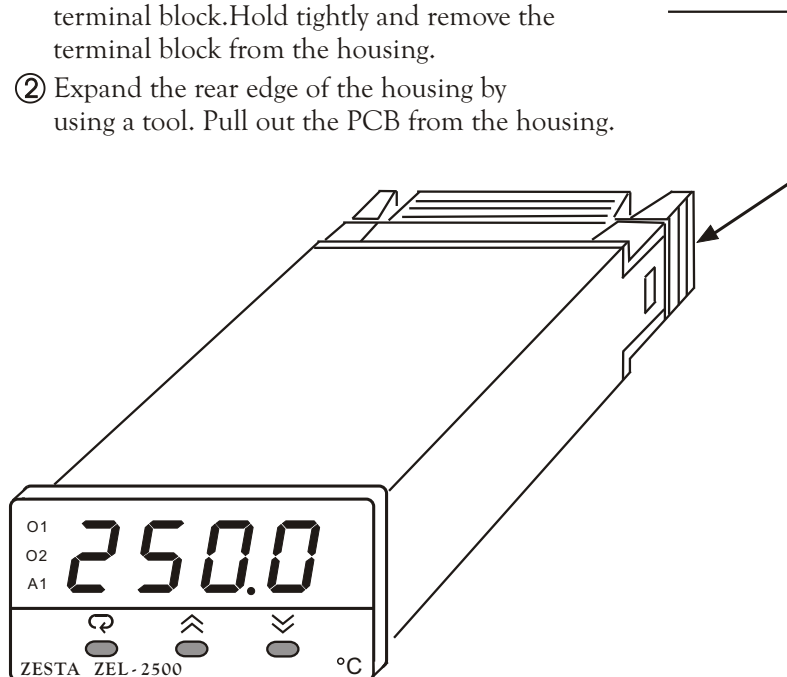

Figure 7.1
- (4) Dismantle the controller according to Figure 7.1 .